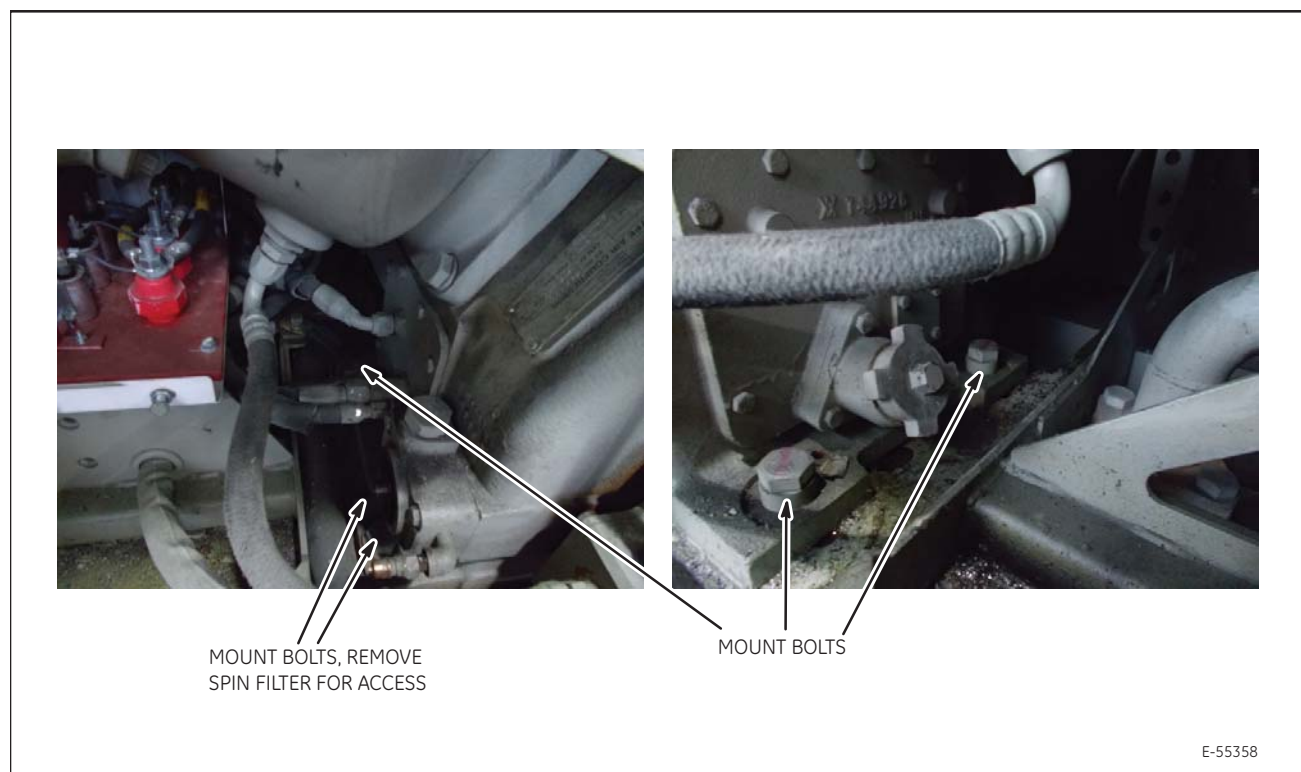

Figure 22. Compressor in Car Body
10. Position a fork lift or equivalent lifting device alongside the platform (Figure 22).
11. Attach a come along to a solid anchor point and a lifting strap to the high pressure head (Figure 22).
12. Gently begin sliding compressor out of car body (Figure 22).